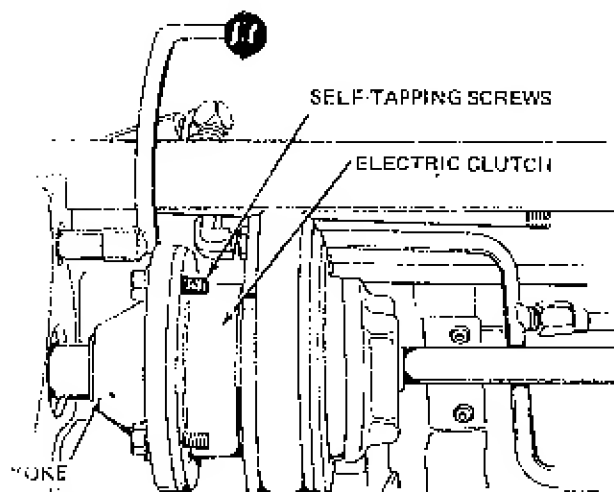

Figure 15. Drive Shaft Clutch Installation
5. Block clutch (Figure 15) or hub with large wrench or crowbar, and secure clutch to hub with four self-tapping screws.